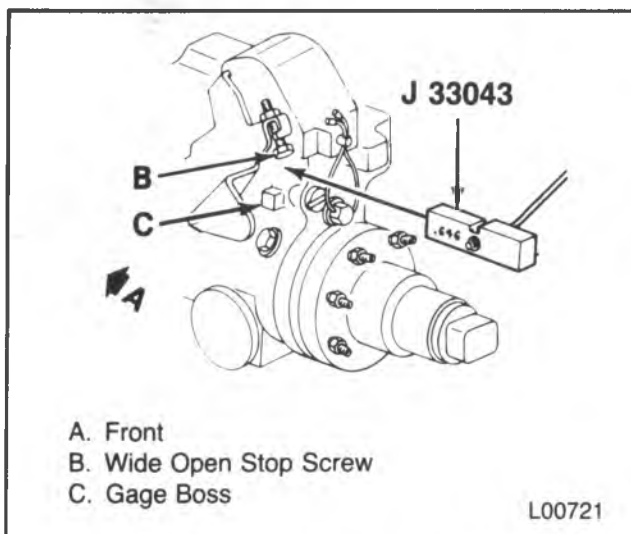

Figure 3 — TPS Adjustment Block
4. Insert a .646-inch gage block (J 33043-A) between the gage boss on the injection pump and the wide-open stop screw on the throttle lever (switch on position) (figure 3).